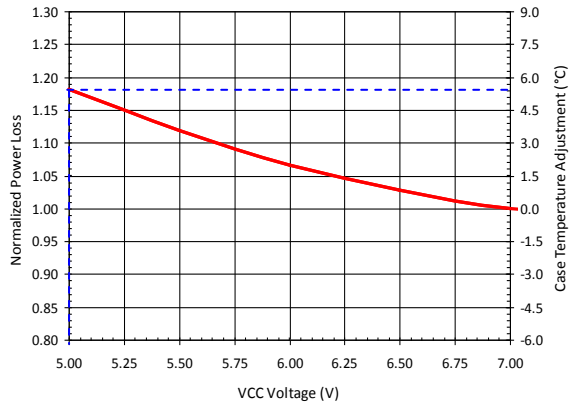

Figure 13: Normalized Power Loss vs. VCC Voltage
- 5) Determine the VCC MOSFET drive voltage normalizing factor with  $VCC=5V$ , which is 1.18 based on the dashed lines in Figure 13.
- 12) Determine the case temperature with VCC = 5V, which is +5.4° based on the dashed lines in Figure 13.